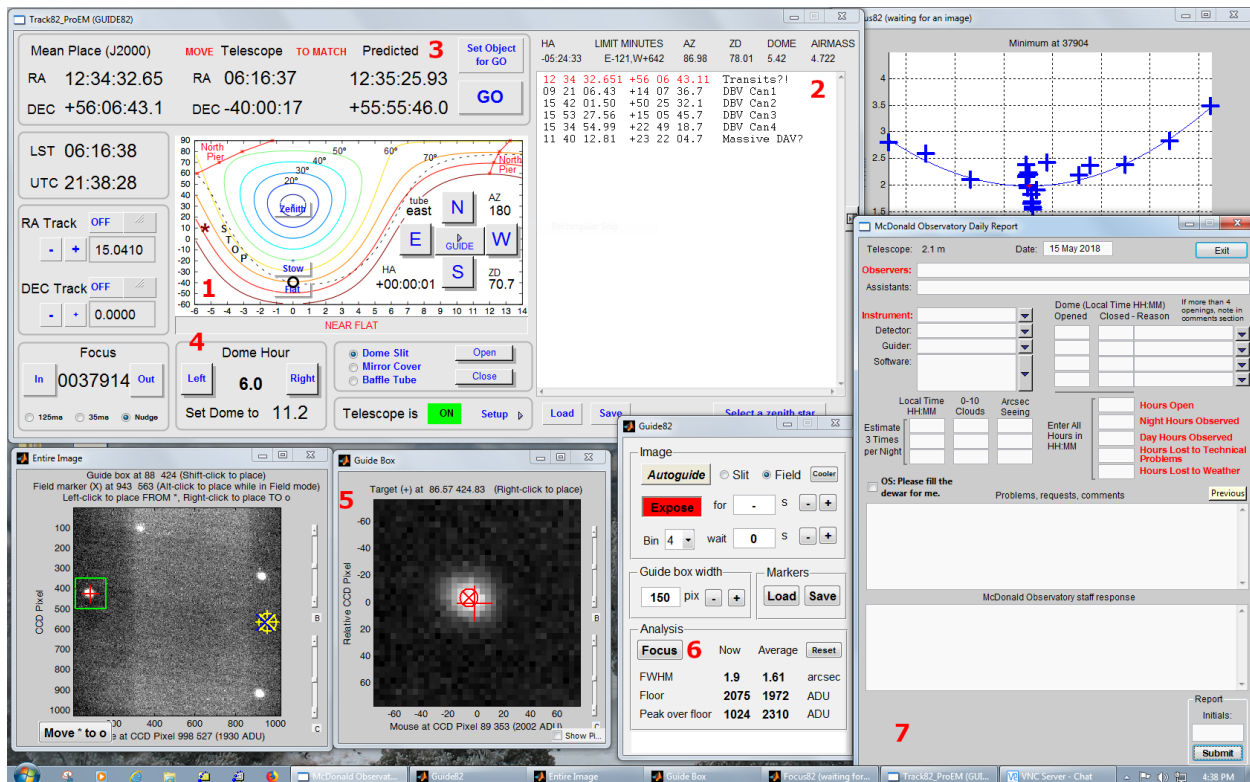

Figure 7: Telescope pointing, guiding, and focusing interface.
You will need to manually slew the telescope onto your targets if they are a significant distance away from your current position. Once you are close, final pointing is completed using the pointing/guiding/focusing program (see Figure 7) on the computer screen in the dome or on the computer opposite the one running *LightField* in the warm room. For each of these computers, you must hold the shift key as a safety switch to complete any movement as you would the pedal on the main telescope console or the trigger button on the hand paddles.
6. Clicking the “focus” button in this window will bring up a plot to help you determine an optimal focus value for the night (top-right of Figure 7 - close the last night’s if it is still open). Before starting this, shift-click to move the focus “In” and set your image well out-of-focus. Double-clicking will move the focus value faster, as will selecting larger increments from the options under the current value. Then, click the “focus” button, and allow a new image to be transferred from the *LightField* computer. Once the image is received here, it will place a mark on the focus plot. Move your focus “Out” slightly, and wait for another image to come in and a mark to be placed. Repeat this until you have turned past a focus minimum on the plot, then click the plot area to fit a parabola to your data points and receive an optimal focus value. You may then set the focus to this optimal value and continue data acquisition for the rest of the night. The optimal value should also be recorded in the night log. This box will also report an approximate seeing value for each new image, and the seeing should be recorded three times per night in the night report on this computer. Click “reset” for each new object to get seeing values for that object alone.